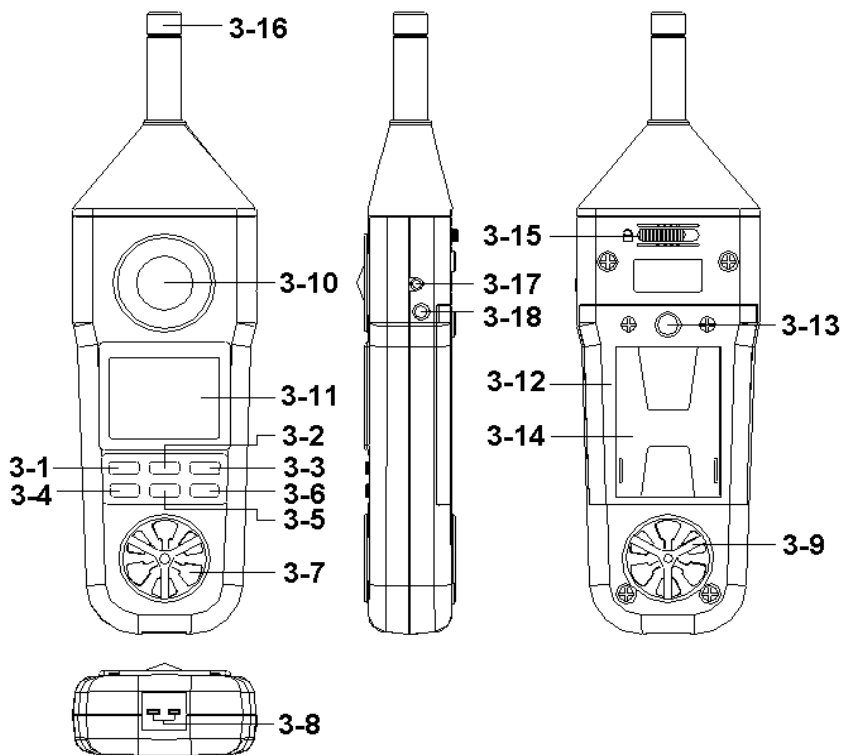

Fig. 1
- 1) Power on the instrument by pressing the " Power Button " (3-1, Fig. 1).
- 2) Select the Anemometer function by pressing " Function Button " (3-6, Fig. 1) until the display show the the Anemometer unit (ft/min, m/s, km/h, MPH, knots).
- 3) Press the " Unit/Zero Button " (3-4, Fig. 1) to select unit that you want and then face the " Air Flow Sensor " (3-7, Fig. 1) to the source of wind.
- 1) Power on the instrument by pressing the " Power Button " (3-1, Fig. 1)..
- 2) Plug a type K thermocouple probe (optional) in the " Thermocouple Input Socket " (3-8, Fig. 1).
- 3) Select the Temperature function by pressing " Function Button " (3-6, Fig. 1) unit the Display only show the Temp. unit (°C or °F).
- 2) Select the Relative Humidity function by pressing " Function Button " (3-6, Fig. 1) until the Display show the unit (%RH).
- 3) The reading value of humidity and temperature that are sensing from the " Humidity Sensor " (3-9, Fig. 1) will be displayed on the LCD display.
- 2) Select the Light Measurement function by pressing the " Function Button " (3-6, Fig. 1) until the light unit (Lux, Ft-cd) is displayed.
- 3) Press the " Lux/Ft-cd Button " (3-5, Fig. 1) to select measuring unit " Lux " or " Ft-cd ".
- 4) The Display will show the lighting value that sensing from the " Light Sensor " (3-10, Fig. 1)
- * For best results zero the light sensor prior to use in a dark environment. Placing the light sensor end of the meter under a desktop or flat surface so as to block any light can accomplish this. Then press the "Unit/Zero Button" (3-4, fig. 1) to set the meter indication to zero.
- 2) Select the Sound Level function by pressing the " Function Button " (3-6, Fig. 1) until the Sound level unit (dB) is displayed.
- 3) Hold the instrument in hand and point the " Sound Probe Head /microphone " (3-16, Fig. 1) at measured noise source, the sound level value (dB) will be displayed on LCD.
Whenever press the "Hold Button (3-2, Fig. 1)" will freeze the current reading value with a "HOLD" symbol on the display.
- 1) The Data Record function records & displays the maximum and minimum reading values. Start the Data Record function by pressing the " Max./Min. Button " (3-3, Fig. 1) once. There will be a " REC " symbol on the display.
- (a) Press the " Max./Min. Button " (3-3, Fig. 1) once and the " Max " symbol along with the maximum value will appear on the display.
- (d) Clear the Max./Min. value recorded by pressing the " Hold Button " (3-2, Fig. 1) once. Previous recorded Max./Min. value will be given up and then revert to the REC. function keep on recording.
The instrument has RS232 PC serial interface via a 3.5 mm terminal (3-17, Fig. 1).
- 2) Open the " Battery Compartment / Cover " (3-12, Fig. 1) and remove the battery.